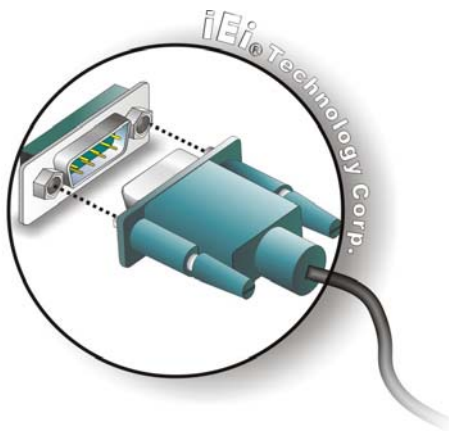

Figure 3-36: RS-232 Serial Device Connector
Step 2: Insert the serial connector. Insert the DB-9 connector of a serial device into the DB-9 connector on the external peripheral interface. See **Figure 3-36**.